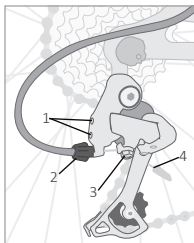

FIGURE 3.13
2. Loosen the cable-clamp bolt (Figure 3.13) until the cable is free.